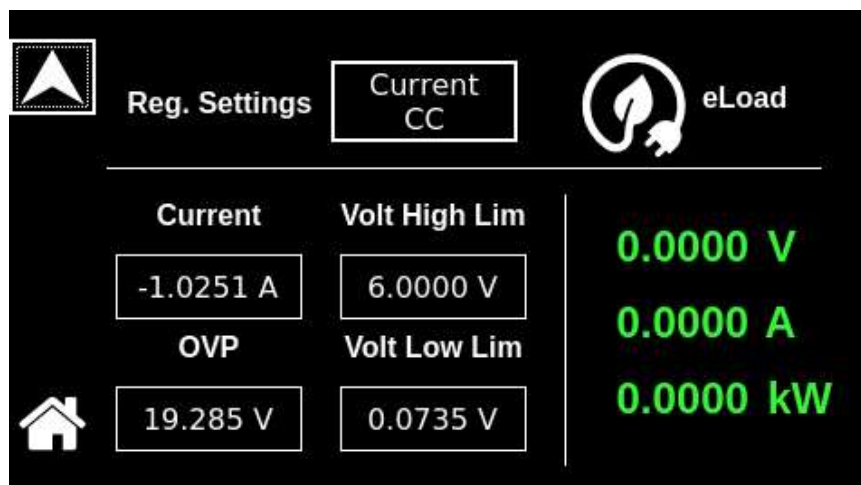

Figure 10-13. Dashboard Screen in Current CC Regulation setting
- c) Current - CC** Regulation setting is shown in Figure 10-13,